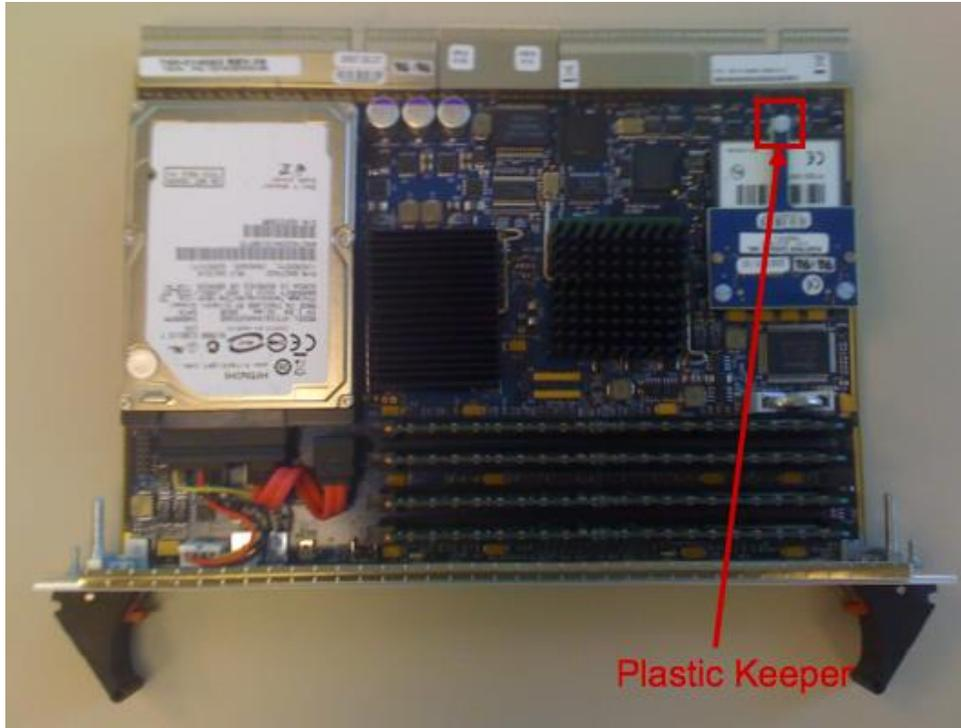

Figure 3-2: Plastic Keeper for FLASH
1. Remove the plastic keeper holding the FLASH memory in place. See figure 3-2.